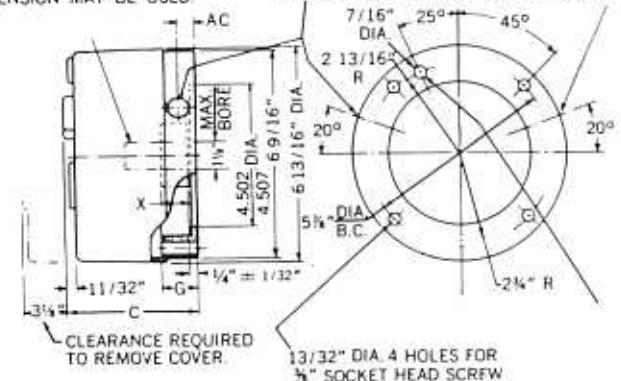
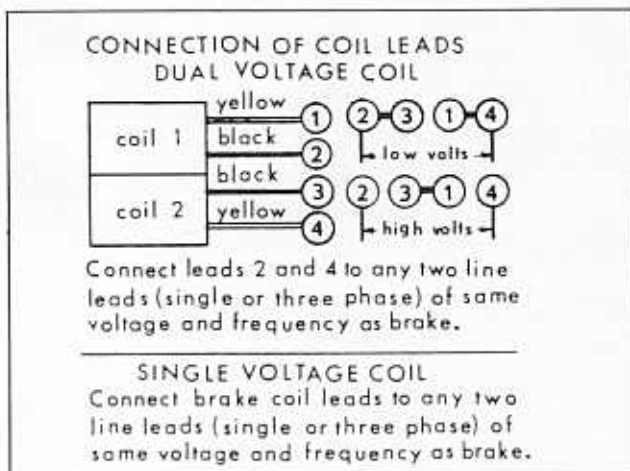

Figure 2. Outline Dimensions of Brake
Figure 4. Wiring Diagram
INSTALLATION (See Figures 2, 4 & 5)
1. Remove hub (1) from brake and position on motor shaft with key as illustrated in Figure 2. Stamped part number on hub should face away from motor. Tighten hub set screws to shaft with 8 - 10 lb. ft. torque.
2. Remove two cover screws (32) and cover (31) and position brake over hub on shaft. Bolt brake to motor flange or floor mount.
3. Connect coil wire leads as shown in Figure 4. Replace cover and cover screws.